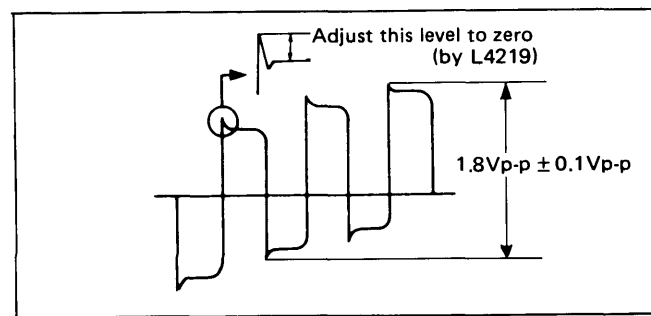

Fig. 41
- 4) Adjust L4219 to achieve waveform shown in Fig. 41.